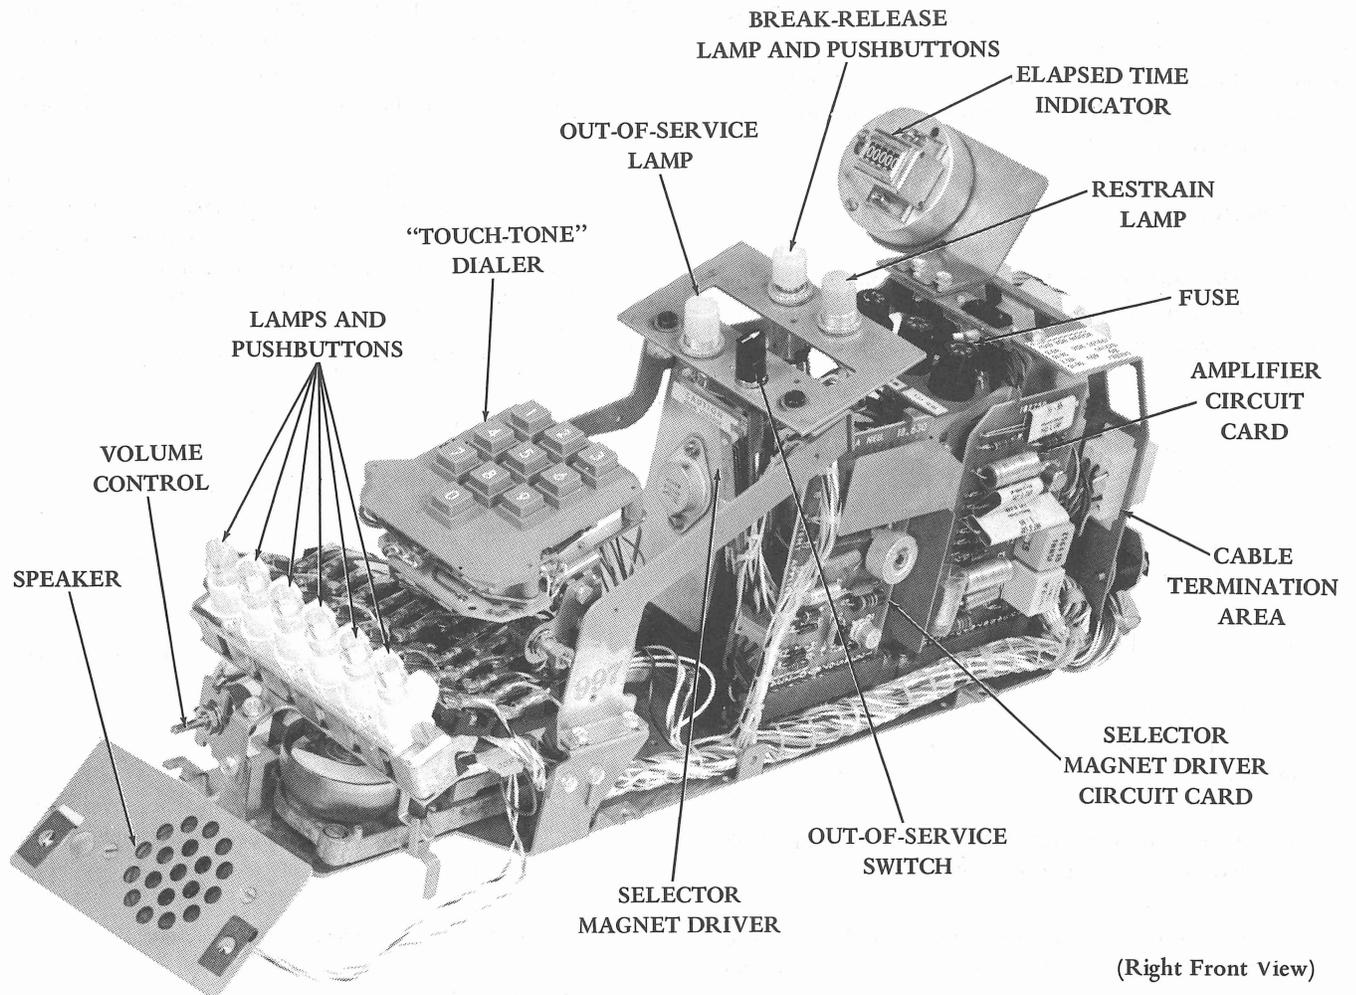

Figure 9 - Typical Call Control Unit
3.10 The call control unit (Figure 9) is mounted on the set subbase. It serves as a bridge between the teletypewriter set and the transmitting facilities. Generally, the call control unit serves to initiate, accept, control and complete incoming calls. A power supply, local-remote control circuits, and a selector magnet driver circuit are some of it's basic elements.